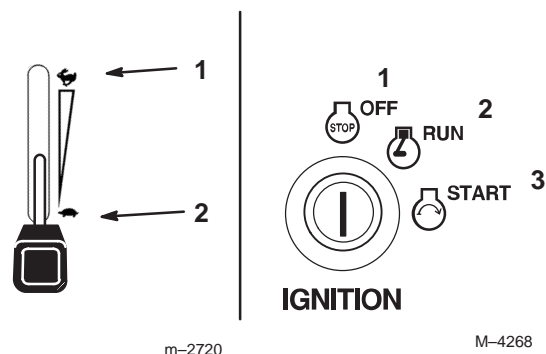

Figure 16
5. Move the throttle control to the fast position before starting a cold engine (Fig. 16).
1. Push the PTO to off (Fig. 16).
2. Move the throttle lever midway between the slow and fast positions (Fig. 16).